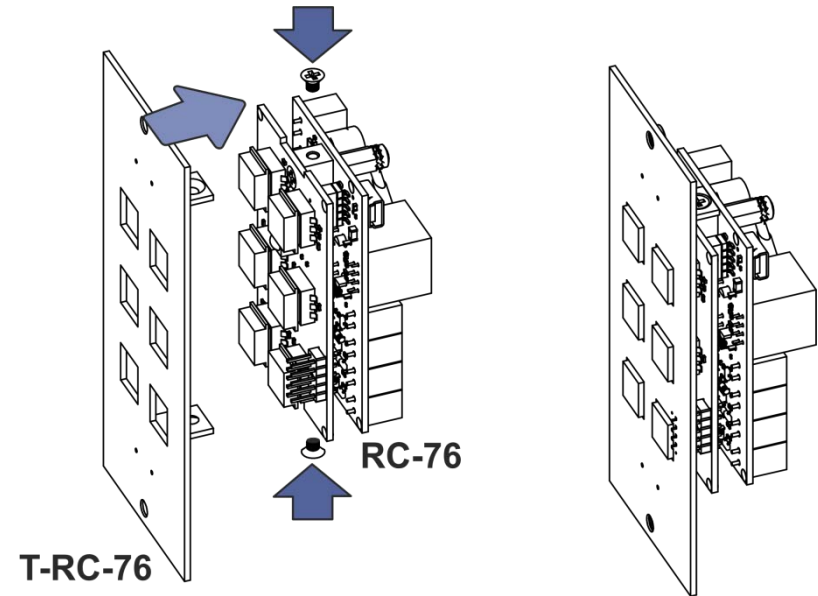

Figure 3: T-RC-76/T-RC-78 Installation
3. Fit the **T-RC-76** over the buttons of the **RC-76**; insert the two mounting plate screws through the **T-RC-76** mounting bracket screw holes and tighten them (see Figure 3).